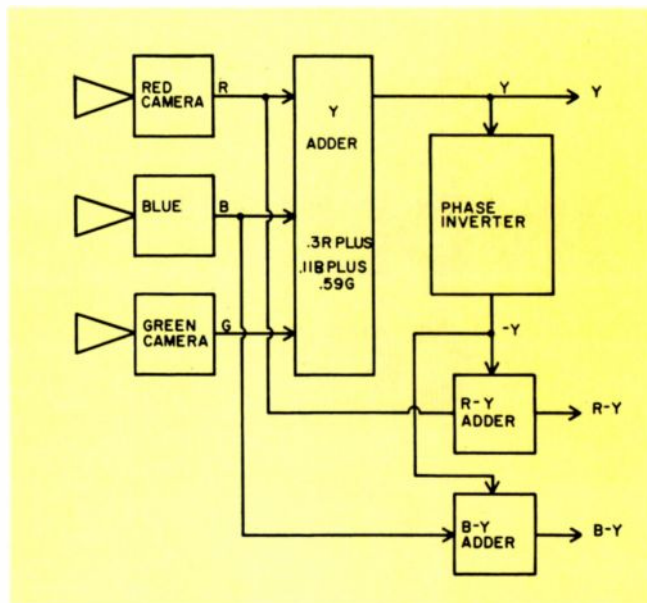

Fig. 2 — Producing color and brightness signals.
A block diagram (Fig. 2) shows how low detail color portions of the picture are created. The procedure is as follows: First, the Y brightness signal is passed through a 180 degree phase inverter to produce a -Y signal. The output voltage of the red camera (R) is then electronically added to the -Y to produce one color signal, R-Y. The blue camera tube output (B) is added electronically to the -Y signal to produce the second color signal, B-Y.